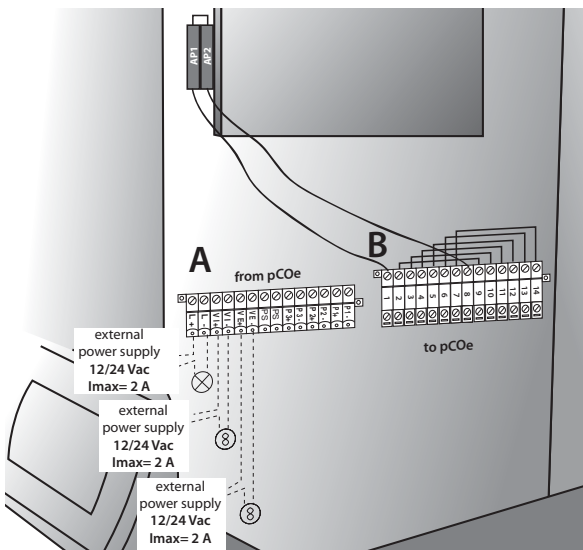

Fig. 3.g
3. insert the terminal block supplied (code 98C565P012) into connector A and connect the utilities (see the fig. 3.g).